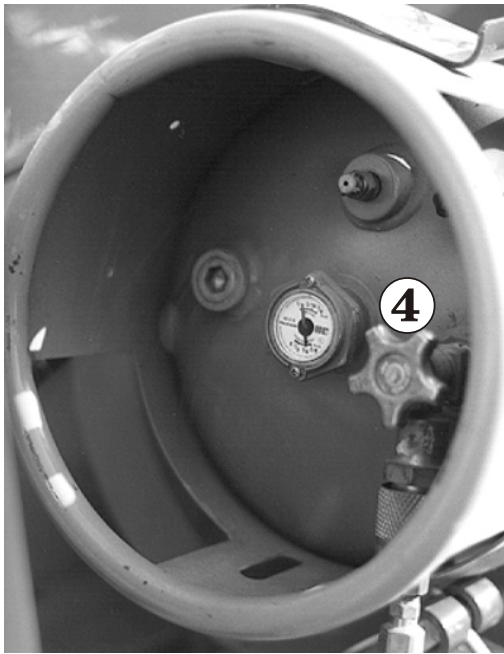

Figure 8.12
Completely open the valve ④ (see Figure 8.12) on top of the LP tank (unscrew counterclockwise until it stops).